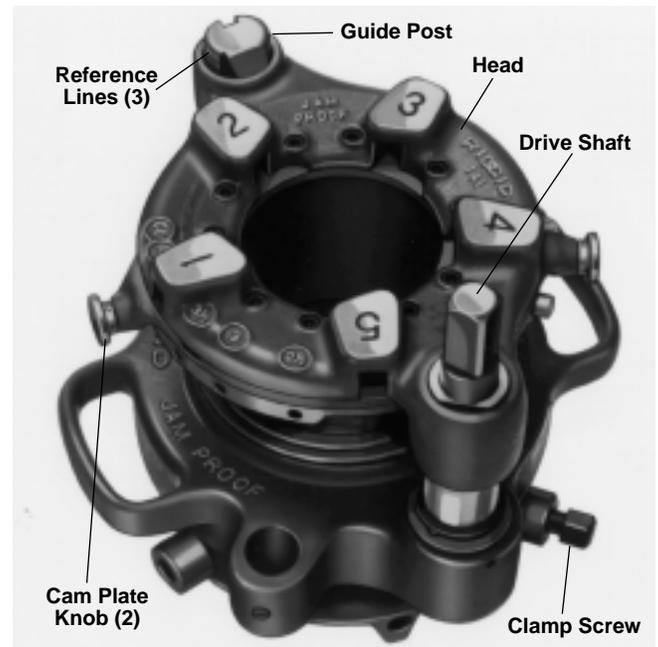

Figure 18 – No. 141 Geared Threader with Drive Shaft Up
1. For standard thread depth, hold workholder stationary and rotate gear case by hand until standard line on pinion sleeve is flush with bottom of die head or the standard line on guide post is flush with top of die head (*Figure 18*).